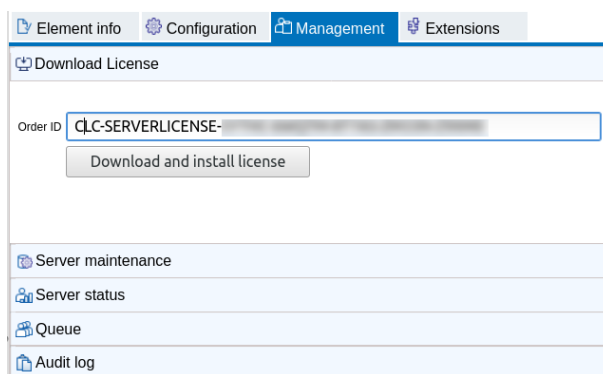

Figure 11.1: License management is done under the Management tab.
CLC Server status and management functionality is provided under the **Management** (📁) tab (figure 11.1). This chapter describes functionality for downloading licenses, putting the server into maintenance mode, stopping and restarting the server, and related activities.
- Enter the Order ID supplied by QIAGEN into the Order ID field and click on the "Download and Install License..." button (figure 11.1).